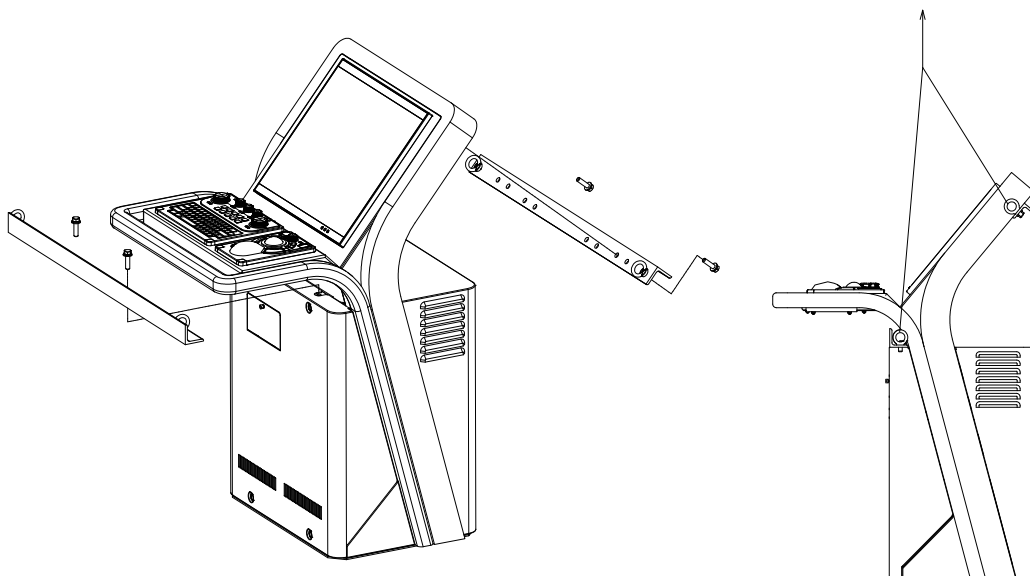

Fig 3-21 When the stand alone type display unit(19inch)
- Attach to the display unit the lifting lugs specified and eye bolt. And lift over the rope at four positions eyebolts. (See **Fig 3-21 When the stand alone type display unit(19inch)**)